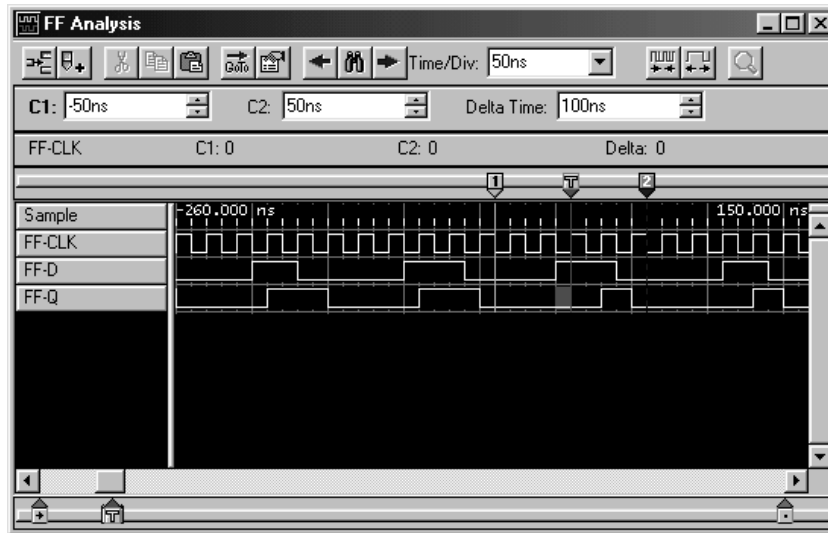

Figure 2–31: Waveform display for Exercise 7
1. Open the waveform data window labeled FF Analysis. The window should look similar to Figure 2–31.